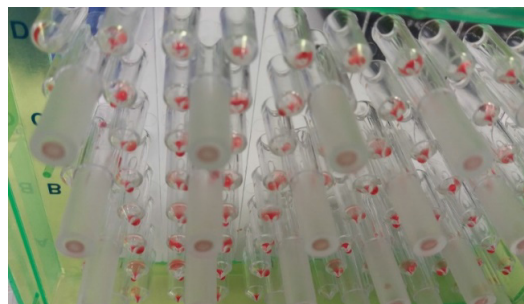

Figure 49. Examples of pictures of cartridges.
- Take a picture of the utility plate after calibration (see **Figure 49**).
- 11** Upon completion of the diagnostic injection test, take a picture of the cartridge from above, from below, and from the side that includes all wells and make sure all injection ports are visible (see **Figure 49**).